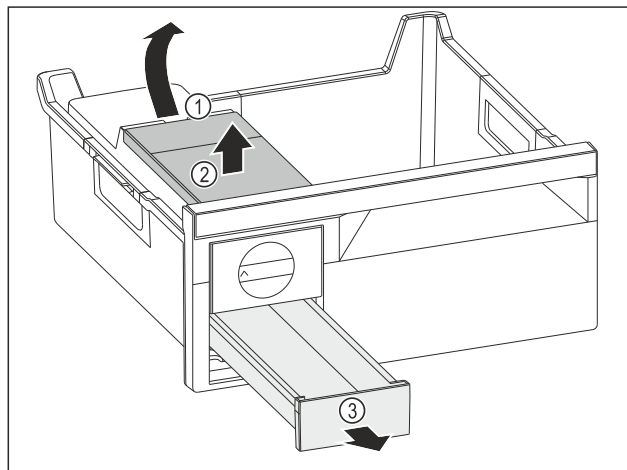

Fig. 95
- ▶ Removing the water tank: Lift the water tank by the recess Fig. 95 (1).
- ▶ Remove the water tank Fig. 95 (2) upwards.
- ▶ Remove the ice cube drawer Fig. 95 (3) to the front.